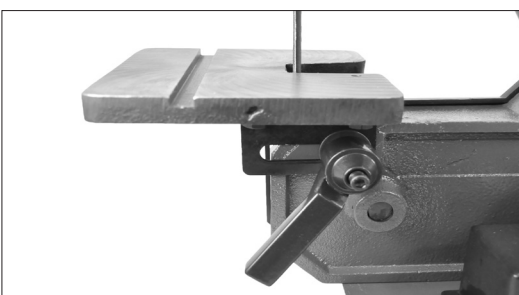

FIG. 13
26. Fasten the table in place. Thread the bolt portion of the locking adjustable handle through the bracket's slot and into the threaded hole of the sanding frame. FIG. 13.